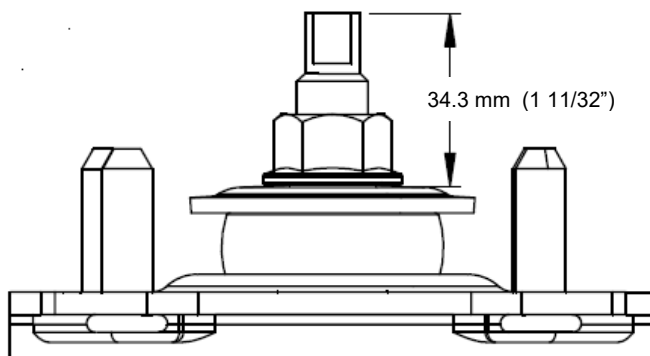

Figure 4
- M. Install the provided new locknut and tighten to 65 Nm (48 lb·ft). Be sure to keep the top washer centered under the nut while it's being torqued to ensure it seats around the sleeve. Use an 8mm wrench or crescent wrench to keep the piston rod from rotating while torquing the locknut. Refer to the dimension in Figure 4 below to verify the upper washer seats around the sleeve once tightened.